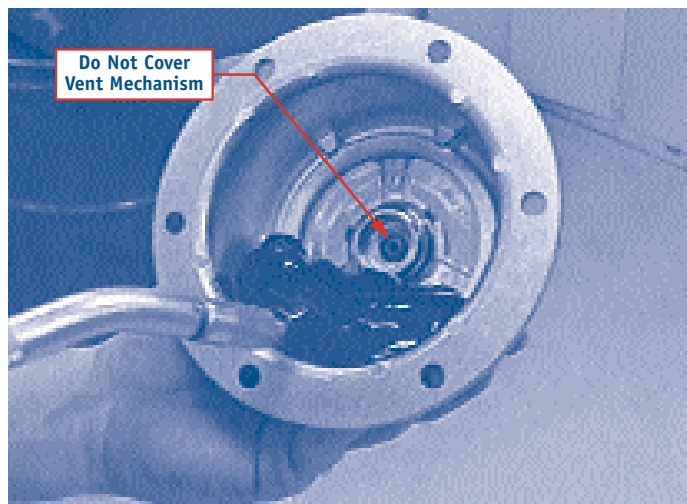

Figure 1 Fill Level for Semi-Fluid Lubricant
1. Holding the hub cap as shown (Figure 1), fill the lower side of the hub cap until level with the inner edge of the mounting flange and the edge of the vent mechanism. Table 1 provides the approximate volume of lubricant necessary for each hub cap part number. **DO NOT COVER THE VENT MECHANISM WITH LUBRICANT!** This will result in “filming” or seepage of lubricant from the vent onto the external face of the hub cap during initial operation.